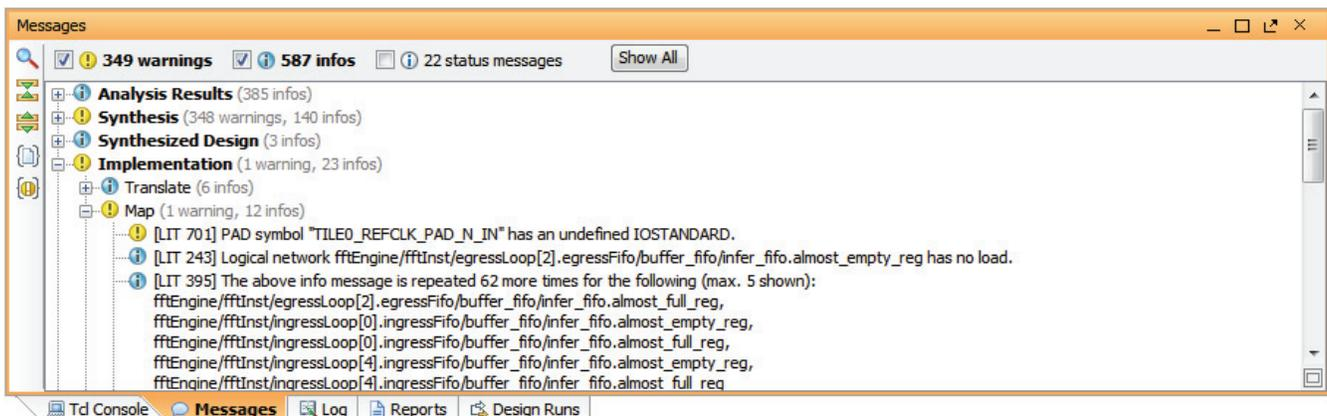

Figure 4-7: Messages View
Messages are grouped under specific headings to enable quick location of messages from different tools or processes. For instance, when you open the Synthesized Design, the PlanAhead tool displays the design and reports messages in the Message view, as shown in Figure 4-7.
- Use **Group messages by file** to sort the messages for each source file, as shown in Figure 4-7, page 103.